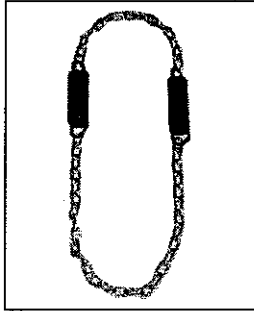

figure 15
1. Connect 2, 26-link chains and 2 springs to form a loop (figure 15).